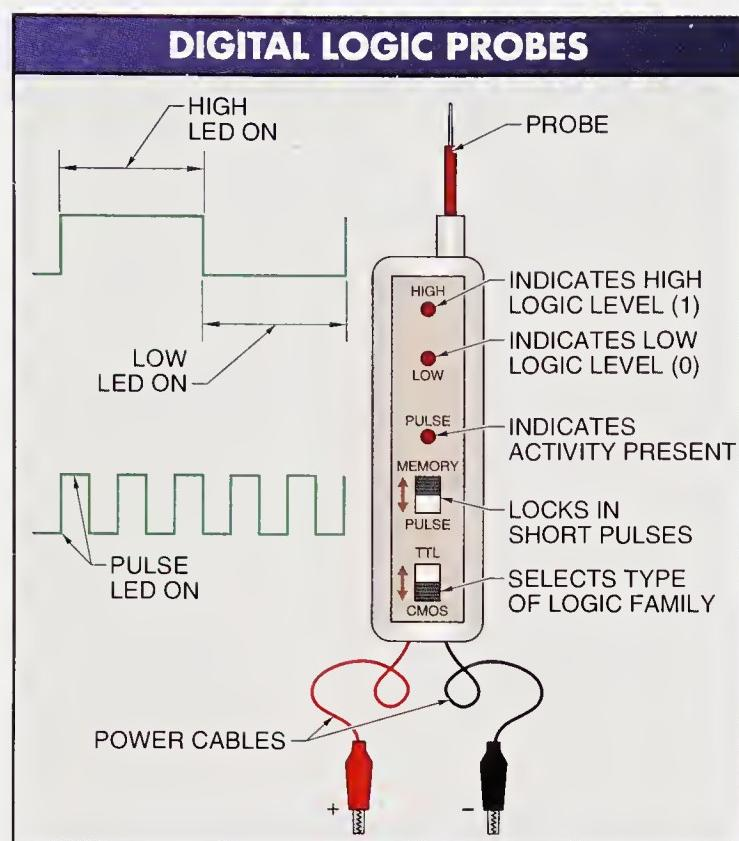

Figure 5-23. A digital logic probe is a special test instrument (a DC voltmeter) that detects the presence or absence of a high (1) or low (0) signal.
A *digital logic probe* is a special test instrument (DC voltmeter) that detects the presence or absence of a high or low signal. Displays on a digital logic probe include logic high, logic low, pulse light, memory, and TTL/CMOS. The high state light-emitting diode (LED) illuminates when the logic probe detects a high logic level (1). The low state LED illuminates when the logic probe detects a low logic level (0). See **Figure 5-23**.